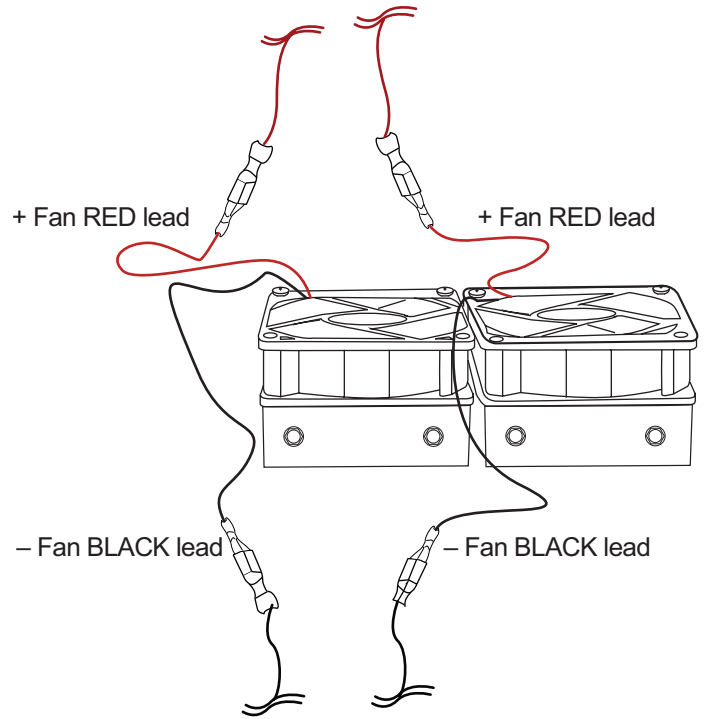

Figure 5-7. Fans, wiring and connections.
1. Disconnect the existing fan positive (+) wire connector and negative (-) wires. See Figure 5-7.
3. Reverse steps 3 to 1 and refer to Figure 5-7 to install replacement fan.